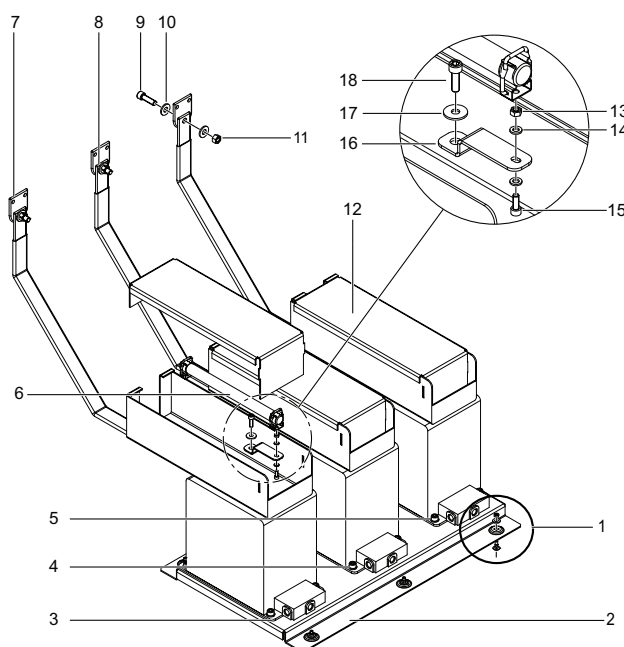

Figure 53
1. Install the VT mounting plate (2) to the cubicle with hardware (1) (Figure 53).
2. Install the VT (3) to the VT mounting plate (2).
3. Insert the washer (5) and screws (4) in the mounting holes at each corner of the VT. Apply the torque as per ST0171.
4. Install the fuse connection copper bar (16) to the VT (5) with washer (17) and screw (18).
5. Install the safety locks to the fuse connection copper bar (16) and the fixed VT connection copper bar (8) with screw (15), and nut (13) along with washers (14).
6. Attach the fuse (6) to the safety lock by sliding the safety lock into position.
7. Attach the insulation cover (12).
8. Install the fixed VT connection copper bar (8) to the CT-VT connector (7).
9. Insert screw (9), and nut (11) along with washers (10).